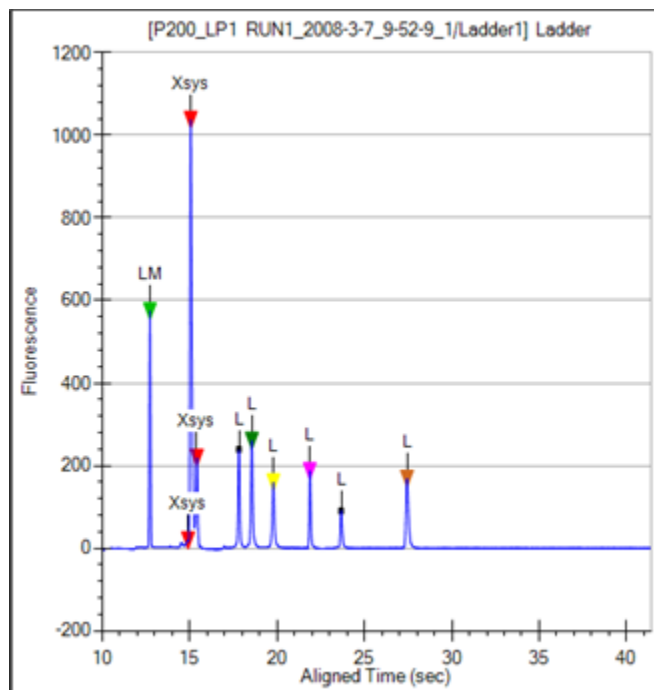

Figure 6. Ladder Graph - Protein
- 4 A sizing ladder (see Figure 6), which is a mixture of protein fragments of different known sizes, is run from the ladder vial before and after every 12 samples. The concentration and sizes of the individual proteins (in kDa) in the ladder can be changed on the Analysis Tab.